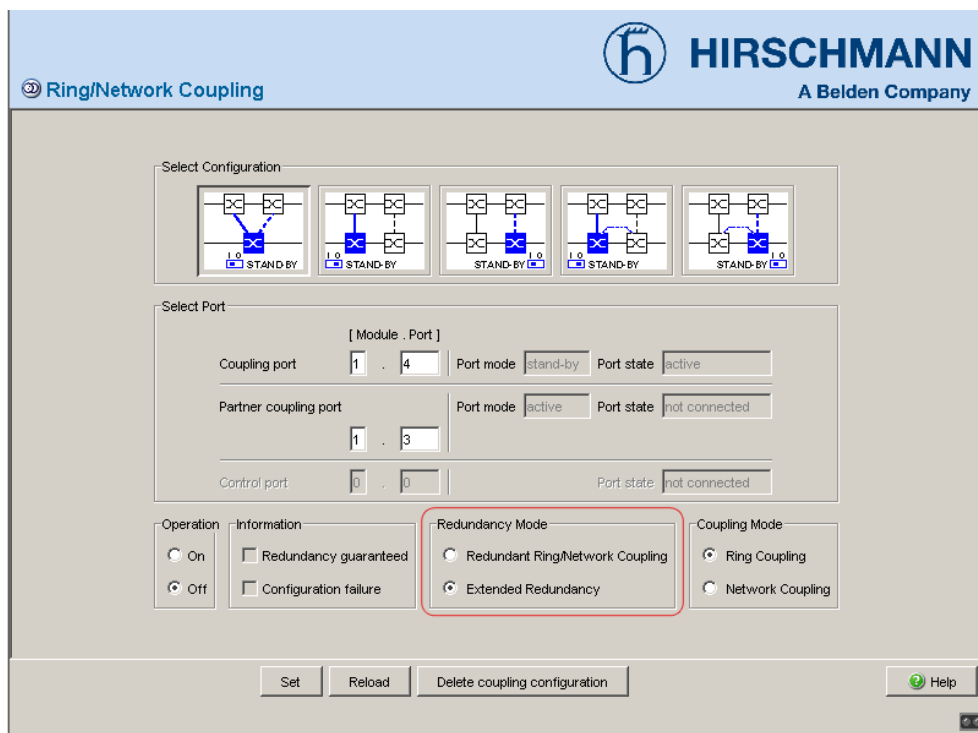

Fig. 15: Selecting the redundancy mode
- Select in the frame "Redundancy mode" (see Fig. 15)